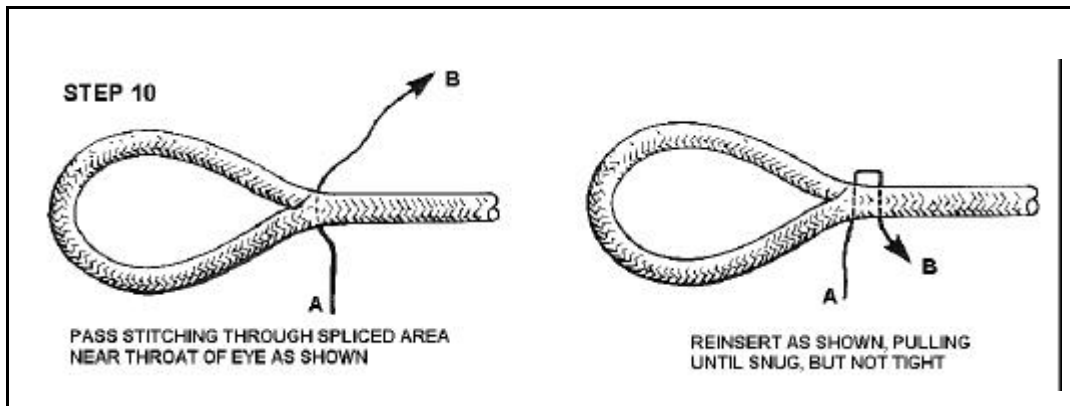

Figure 12-61. Finishing the Eye Splice With Lockstitch
- **STEP 10 -- Finish the eye splice with lockstitch.** Lockstitch splices to prevent no-load opening due to mishandling. Use about one fid length of nylon or polyester whipping twine, about the same size as the strands in the line you are lockstitching. You may also use the same strands cut from the line you are lockstitching (see Figure 12-61).